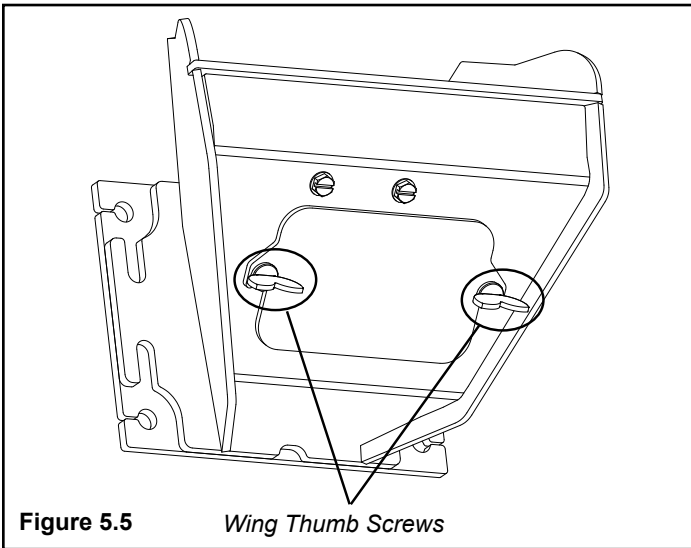

Figure 5.5
- Loosen the (2) wing thumb screws on the lower front angle of the burn pot. Figure 5.5